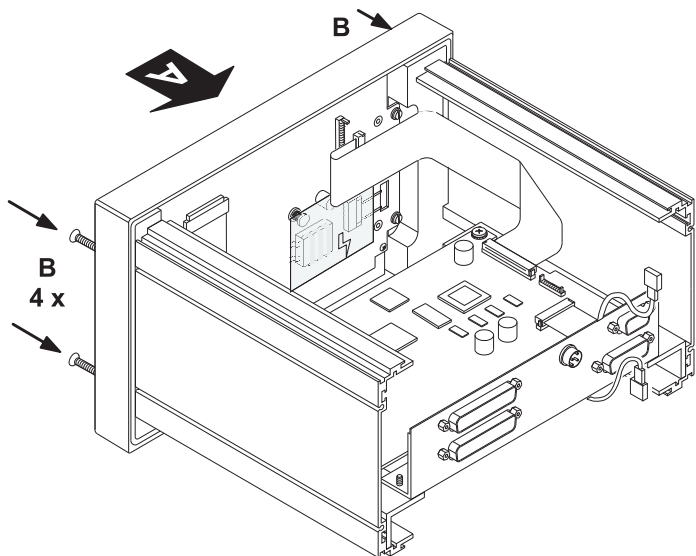

Fig. E 7-20: Upending and fastening the front panel
8. Upend the front panel back to its position at the frame (A). Take care that the display cable is not canted or clamped between front panel and the case. Then fix it with the four Philips screws (B) with a suitable screw driver. (Fig. E 7-20)